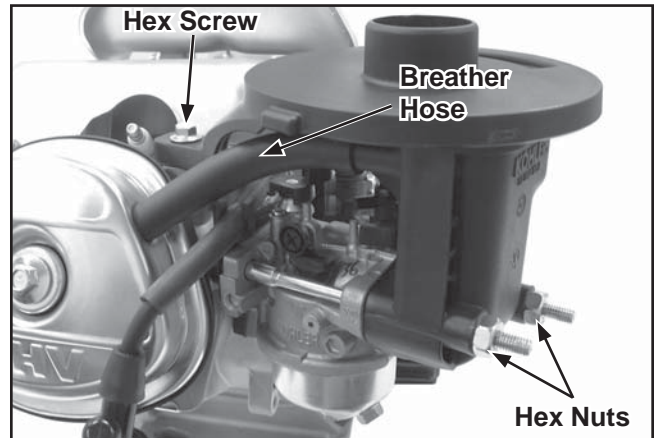

Figure 11-66. Air Cleaner Base Installation.
3. Install a new carburetor to air cleaner base gasket onto the carburetor mounting studs followed by the air cleaner base. Attach the breather hose onto the air cleaner base connection port. Connect the opposite end of the breather hose to the valve cover. See Figure 11-66.
4. Secure the base with the two hex flange nuts on the mounting studs and one hex flange screw into the crankcase housing. Torque hardware to 8 N·m (71 in. lb.). See Figure 11-66.